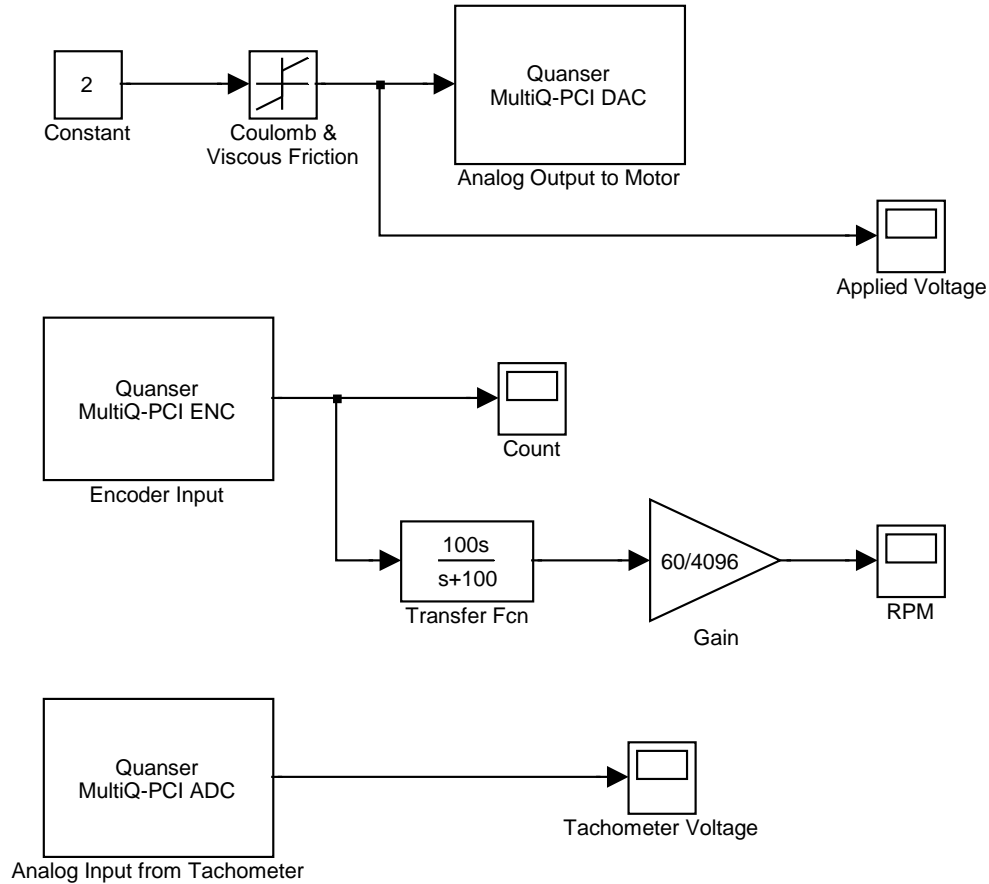

Figure 8: Model for determining the tachometer constant.
1. Create the Simulink model shown in Fig. 8.
- (b) Run the model from Fig. 8 for about 5 seconds.